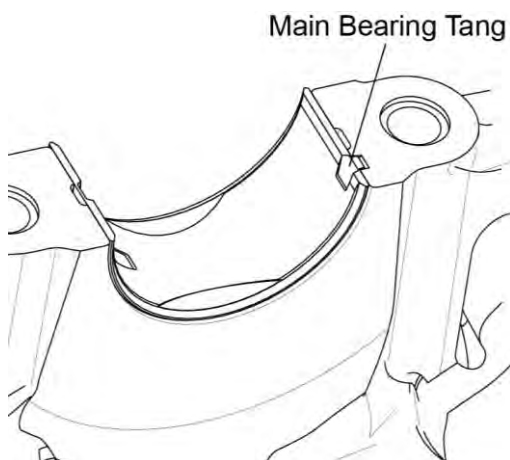

Figure 53
- A. Install the center and rear crankshaft bearings. Make sure the tangs are seated in the lock slots (Figures 53 and 54).